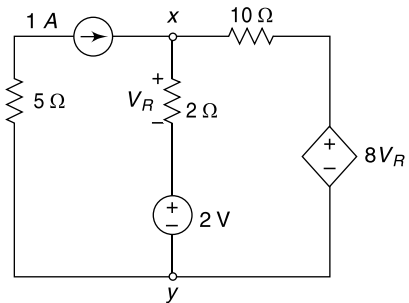

Fig. 4.43 Circuit of Ex. 4.29
4.29 Obtain the value of V_R in the network shown in Fig. 4.43.
In the network of Fig. 4.43 let us assume that the node voltage at node 'x' be ' V_x '. Thus at node 'x' we can write,